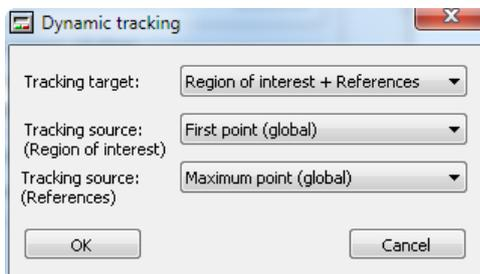
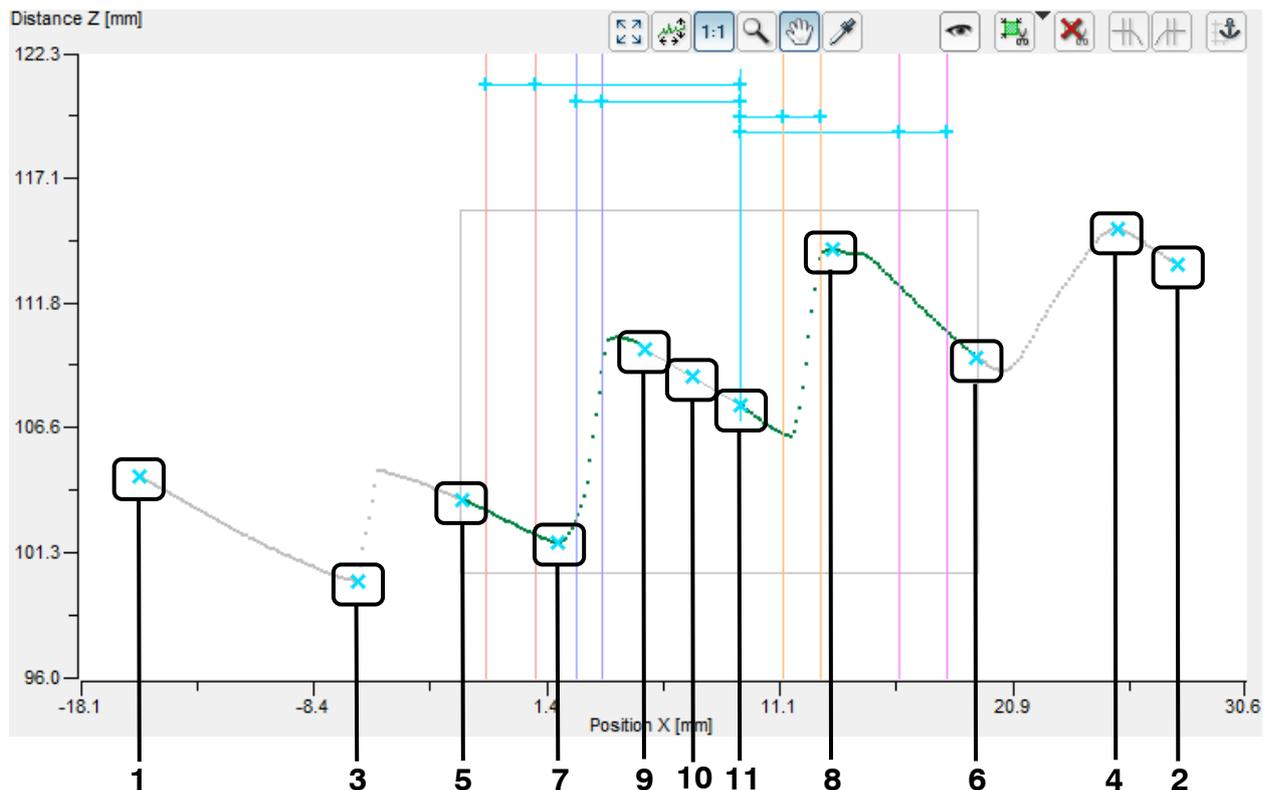

Fig. 3.50: "Dynamic tracking" dialog box
Fig. 3.51: Possible candidates for the anchor points
The "Dynamic tracking" dialog is displayed (see Fig. 3.50). The potential candidates for the anchor point are highlighted in turquoise in the 2D-display (see Fig. 3.51).
- **Tracking source (Region of interest):** Select the anchor point for cutting out. The following options are available (see Fig. 3.51):
- **First point (global):** The first point of the Profile (1).
- **Last point (global):** The last point of the Profile (2).
- **Minimum point (global):** The minimum point of the Profile (3).
- **Maximum point (global):** The maximum point of the Profile (4).
- **Tracking source (References):** Select the anchor point for line fitting. The following options are available (see Fig. 3.51):
- **First point (roi):** The first point inside the range for cutting out (5).
- **Last point (roi):** The last point inside the range for cutting out (6).
- **Minimum point (roi):** The minimum point inside the range for cutting out (7).
- **Maximum point (roi):** The maximum point inside the range for cutting out (8).
➤ In the "Dynamic tracking" dialog (see Fig. 3.50), select the ranges to be tracked and the desired anchor points and confirm with "OK".